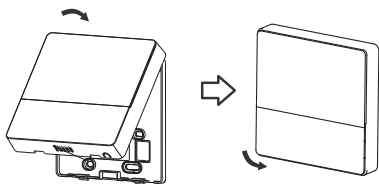

Fig 3-13
- After adjusting the upper case and then buckle the upper case; avoid clamping the wiring during installation. (Fig 3-13)